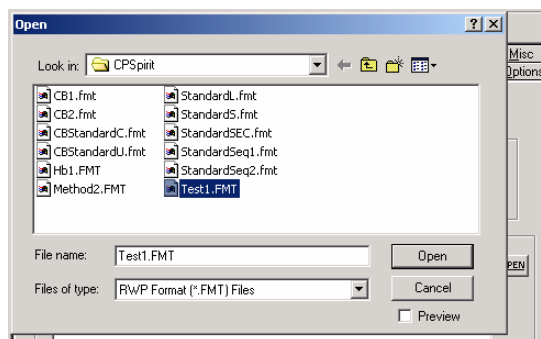

Figure A-34: Open Method File
6. Open the **Test1.FMT** (the formatted report file that was edited before in "Edit Formatted Report File" on page 272) using the browse button and **Open** button as shown in Figure A-34.